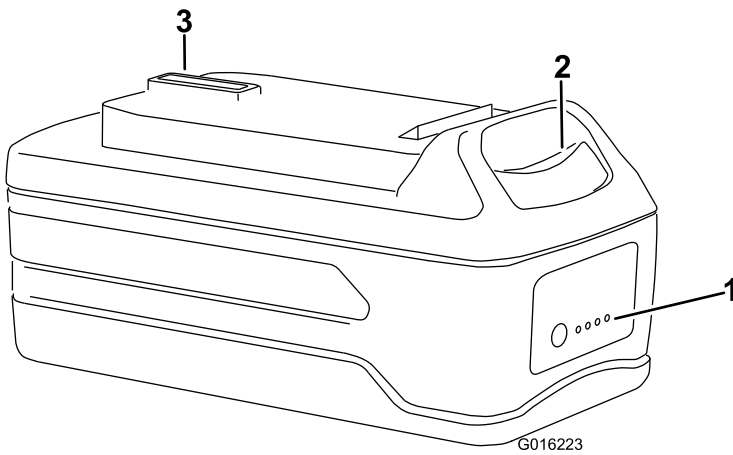

**Figure 5**
1. Turn the battery upside down and line up the battery terminal with the slot in the charger (Figure 5 and Figure 6).